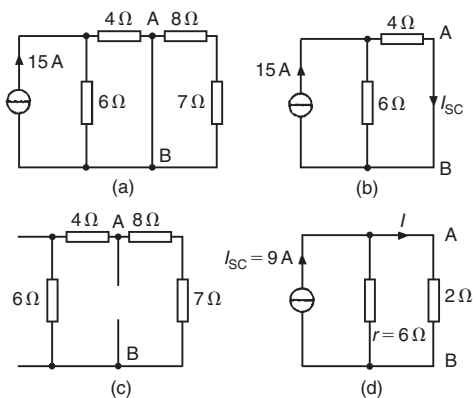

Figure 13.63
- (i) The  $2\Omega$  resistance branch is short-circuited as shown in Fig. 13.63(a)
- (ii) Fig. 13.63(b) is equivalent to Fig. 13.63(a). Hence
- (iii) If the  $15\text{ A}$  current source is replaced by an open-circuit then from Fig. 13.63(c) the resistance 'looking-in' at a break made between A and B is given by  $(6+4)\Omega$  in parallel with  $(8+7)\Omega$ , i.e.
- (iv) From the Norton equivalent network shown in Fig. 13.63(d) the current in the  $2\Omega$  resistance is given by: